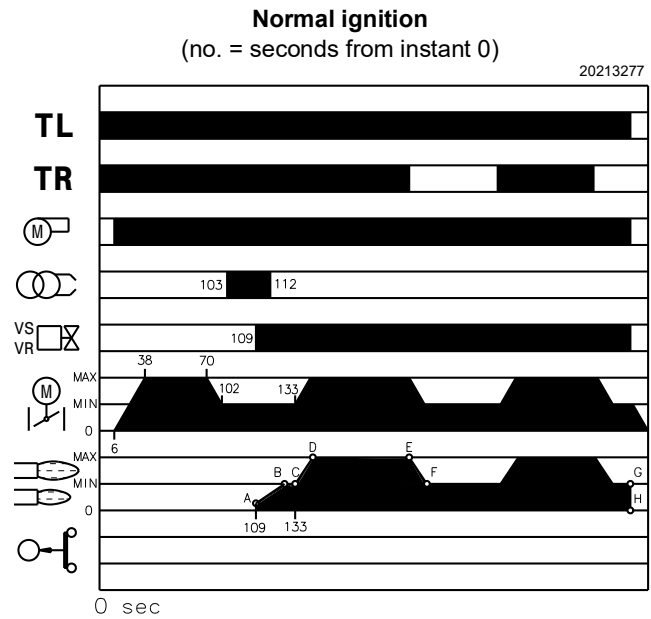

Fig. 38
- 109s** The VS safety valve and the VR adjustment valve open (rapid opening). The flame is ignited at a low output level, point A (Fig. 38). There follows a progressive increase of the input, slow opening of the valve, up to the MIN output, point B (Fig. 38).
Once the starting cycle is completed, the servomotor command moves on to the TR thermostat/pressure switch that controls the pressure or the temperature in the boiler, point C (Fig. 38). (The flame control continues to check the presence of the flame and the correct position of the air and gas maximum pressure switches).